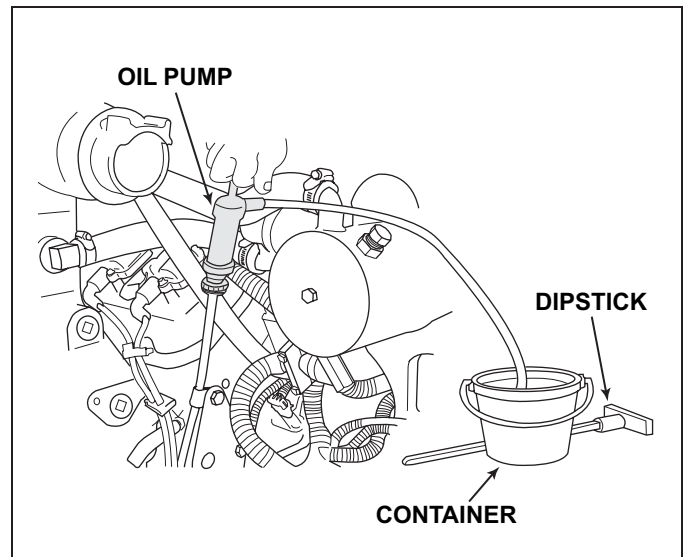

Figure 11-26 Engine Oil Removal
1. With the engine at normal operating temperature, remove the dipstick and install a crankcase oil pump onto the dipstick tube (Figure 11-26). Insert the discharge hose into a suitable container. Pump the oil from the engine until the crankcase is empty. Remove the oil pump from the dipstick tube.